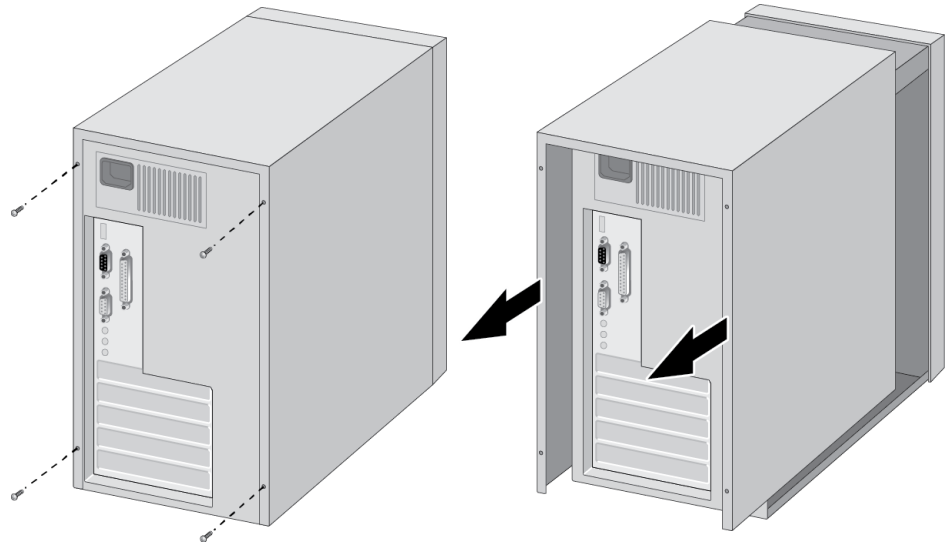

Figure 6. Removing the PC Cover
2. Remove the system cover. Refer to Figure 6 on page 31.